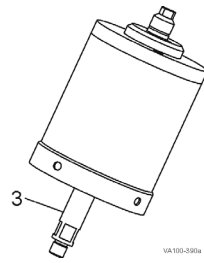

Figure 43:
2. Pull the lower stem (Figure 43, item 3) to remove the caged spring assembly from the actuator cylinder.